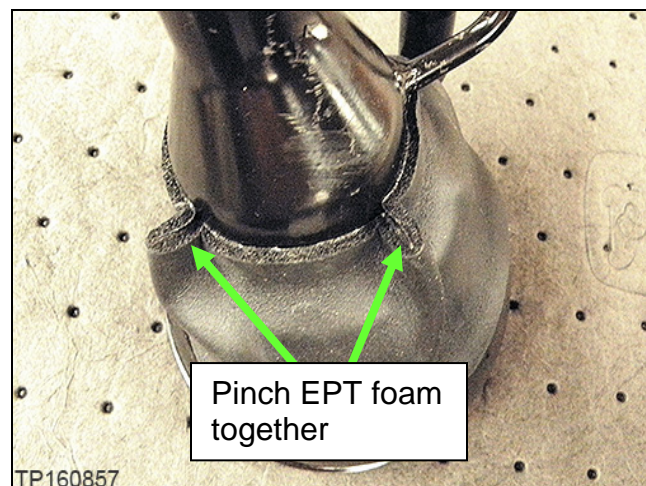

Figure 8
- f. Close the excessive EPT foam by pinching the excess together as shown in Figure 8, and then press the remaining EPT adhesive to the fuel filler pipe.